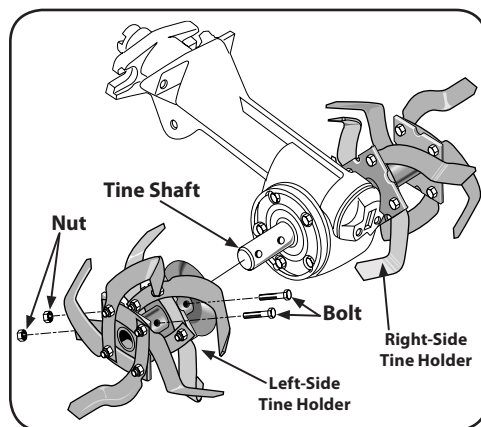

Figure 5-33
5. Use two 5/16" wrenches to remove the two bolts and nuts securing the tine to the tine holder plate. See Figure 5-33. Use penetrating oil on the hardware if it is rusted or hard to remove.
3. Remove the two bolts and nuts securing each holder. See Figure 5-33.